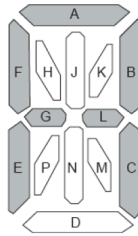

Figure 1: Digit segments in the LCD
1. In the first three laborations of this course we used a demonstration platform that includes an LCD. The LCD is controlled via the registers LCDDR0 to LCDDR19, each of them one byte wide. Figure 1 shows what items can be turned on/off in each digit while Figure 2 shows what bits of the registers are used to control each of the items. In this exercise we are interested in the fact that four registers are used to control 2 positions.
- (a) **(2 pts.)** Write a code fragment that shows character A (the pattern shown with dark items in Figure 1) in the position controlled by the higher nibbles of the registers LCDDR0, LCDDR5, LCDDR10 and LCDDR15.